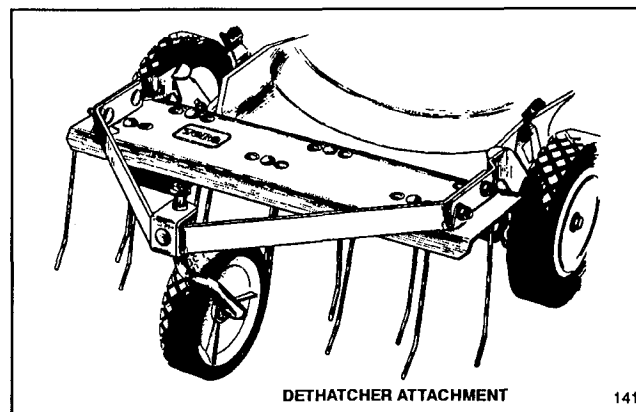

Figure 32
3. Dethatcher Kit, Model 59131 (self-propelled model only)—Installs in minutes. Front mounted for easy maneuverability. As spring tines scratch and vibrate through the grass, thatch is loosened and cut and recut by the mower (Fig. 32).